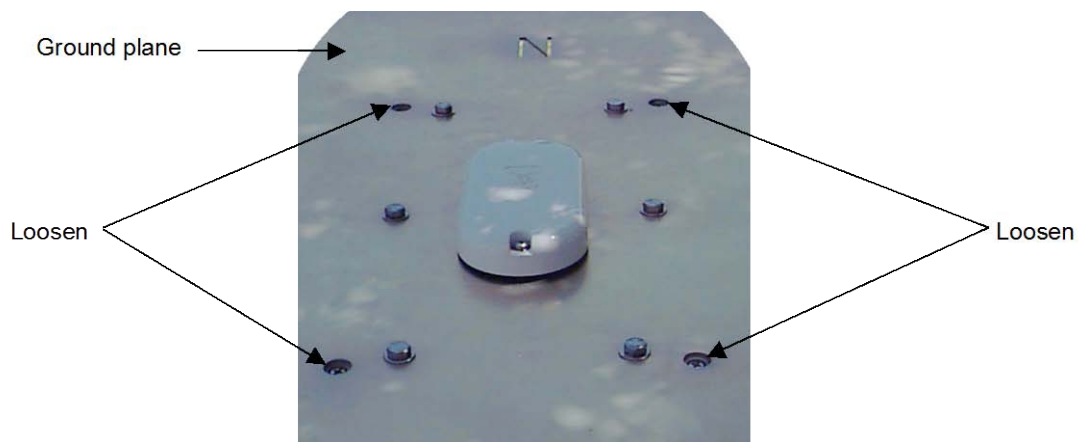

Figure 53. Opening the Sensor Enclosure
9. Open the sensor enclosure by loosening the four countersunk bolts shown in Figure 53. **Do not remove** the six bolts holding the ground plane to the enclosure lid.